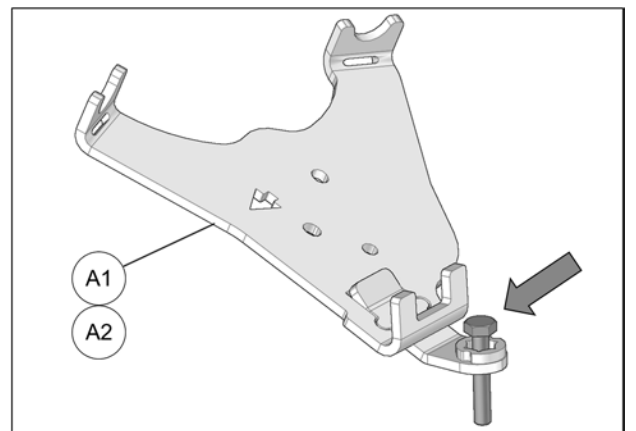

Fig. 19
9. Insert bolt in front anchor brackets (A1-A2) as shown in Fig. 19